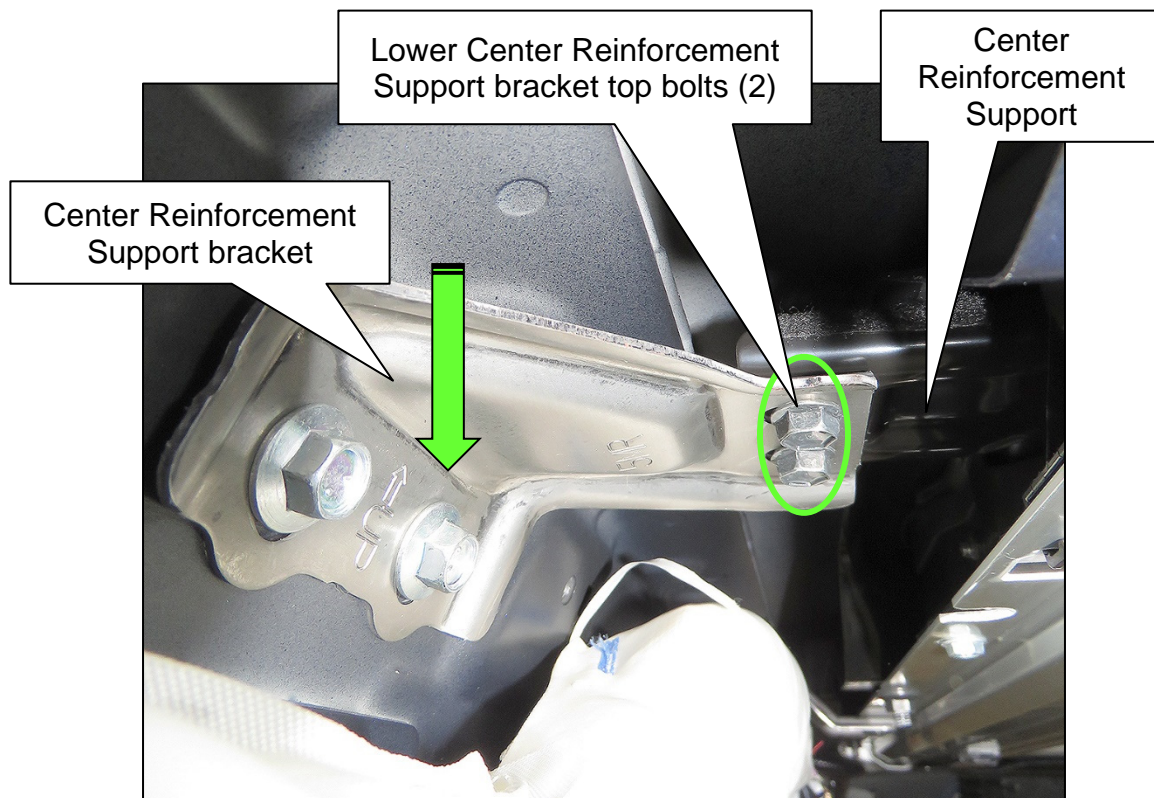

Figure 6
5. Slide the Center Reinforcement Support bracket (Figure 6) downward until there is at least a 0.5 mm (**0.020 in.**) gap at the three (3) measurement points on that side of the vehicle.
6. Tighten the lower two (2) Center Reinforcement Support bracket side bolts loosened in step 4.
7. Loosen the remaining two (2) Center Reinforcement Support bracket top bolts (circled in Figure 6) to release Center Reinforcement Support tension, and then retighten.